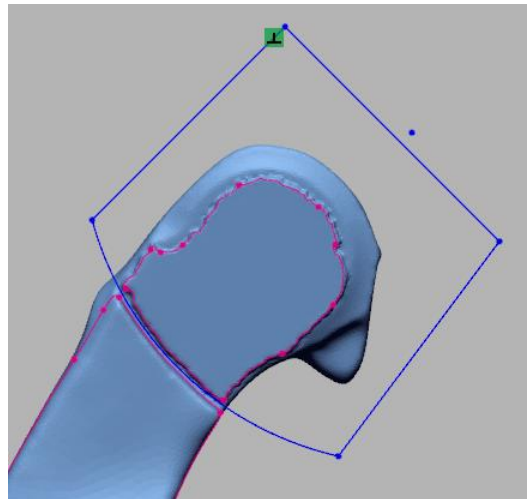

Figure 293
- Draw sketch similar to shown in **Figure 293**.